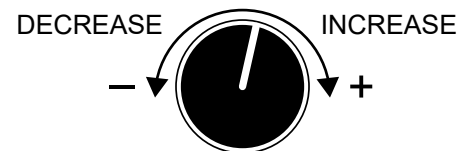

Figure 26. Voltage Regulator
3. Turn the voltage regulator (Figure 26) clockwise to increase voltage output, and turn counterclockwise to decrease voltage output. Use the voltage regulator whenever fine tuning of the output voltage is required.
2. Adjust the voltage regulator (Figure 26) for an output of 208V to obtain 120V at the UVWO terminals.